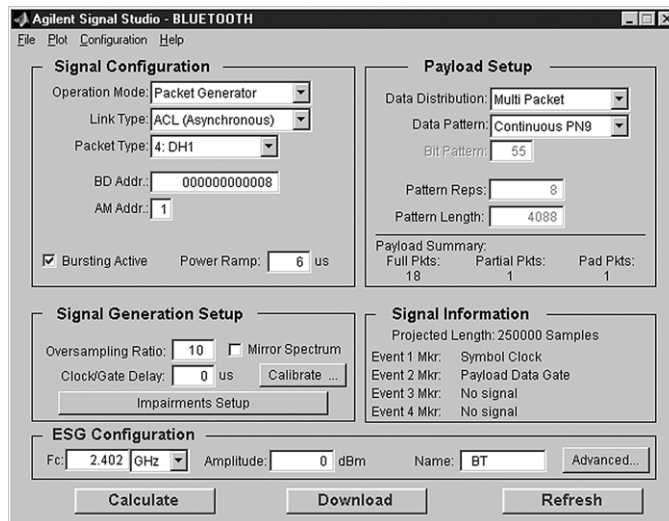

Figure 32. Signal Studio configured to create a DH1 multi packet sequence with continuous PN9 data spread over the user payload portion of the sequence.
3. Use Signal Studio to configure a DH1 multi packet sequence that contains continuous PN9 data distributed over the user payload portion of the packet sequence, Figure 32. Do not add impairments to the signal when performing the initial calibration. Once configured, select the calculate button.